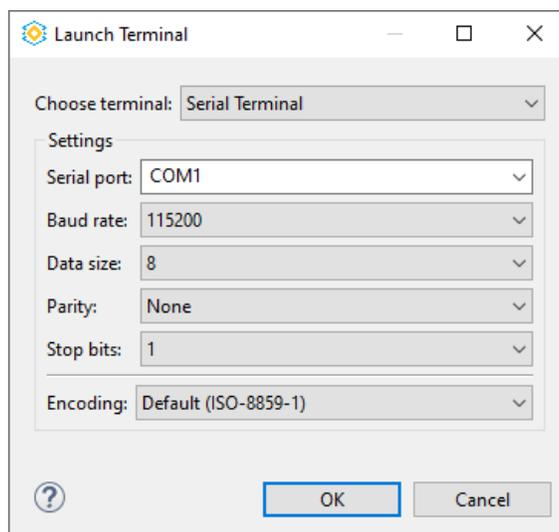

Figure 3.43. Launch Terminal Dialog
2. In the **Terminal** view, click the **Open a Terminal** icon . The **Launch Terminal** dialog opens (Figure 3.43).